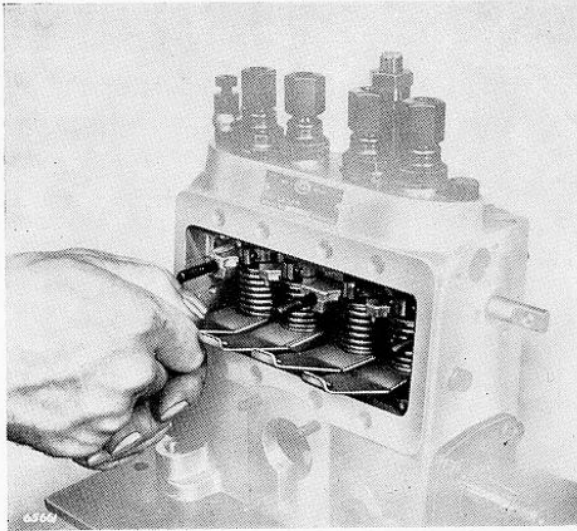
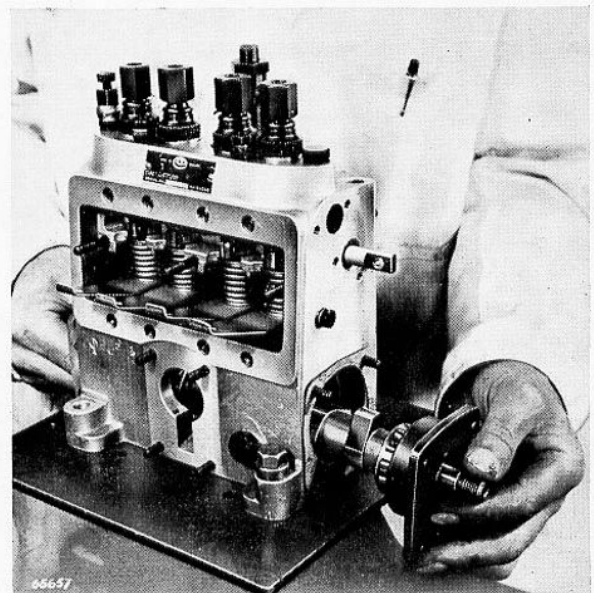

FIG. 5. INSERTING TAPPET HOLDERS—TYPICAL ILLUSTRATION
FIG. 6. REMOVING CAMSHAFT—TYPICAL ILLUSTRATION
6. Turn the camshaft (12) and as each tappet is lifted insert a tappet holder (C.A.V. Part No. 7144/480) between the lower spring plate and the upper surface of the tappet block (Fig. 5).
7. Remove the nuts which secure both camshaft bearing end plates. Tap one end of the camshaft lightly with a hide-faced hammer and dislodge one bearing end plate (28).
9. Withdraw the camshaft complete with races (27) and end plate from the pump housing (Fig. 6).